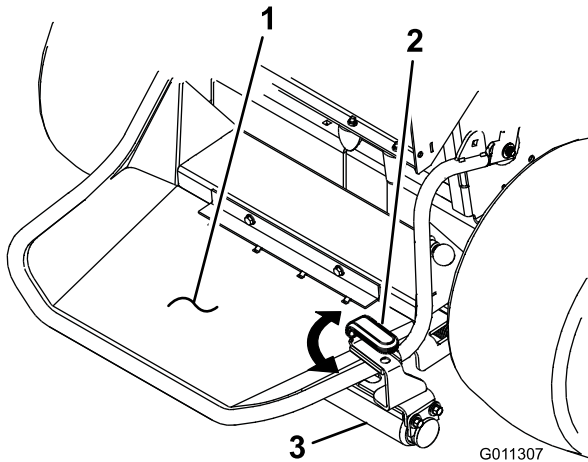

Figure 7
2. With the platform down, raise the roller up and rotate the lift handle over the platform (Figure 7).